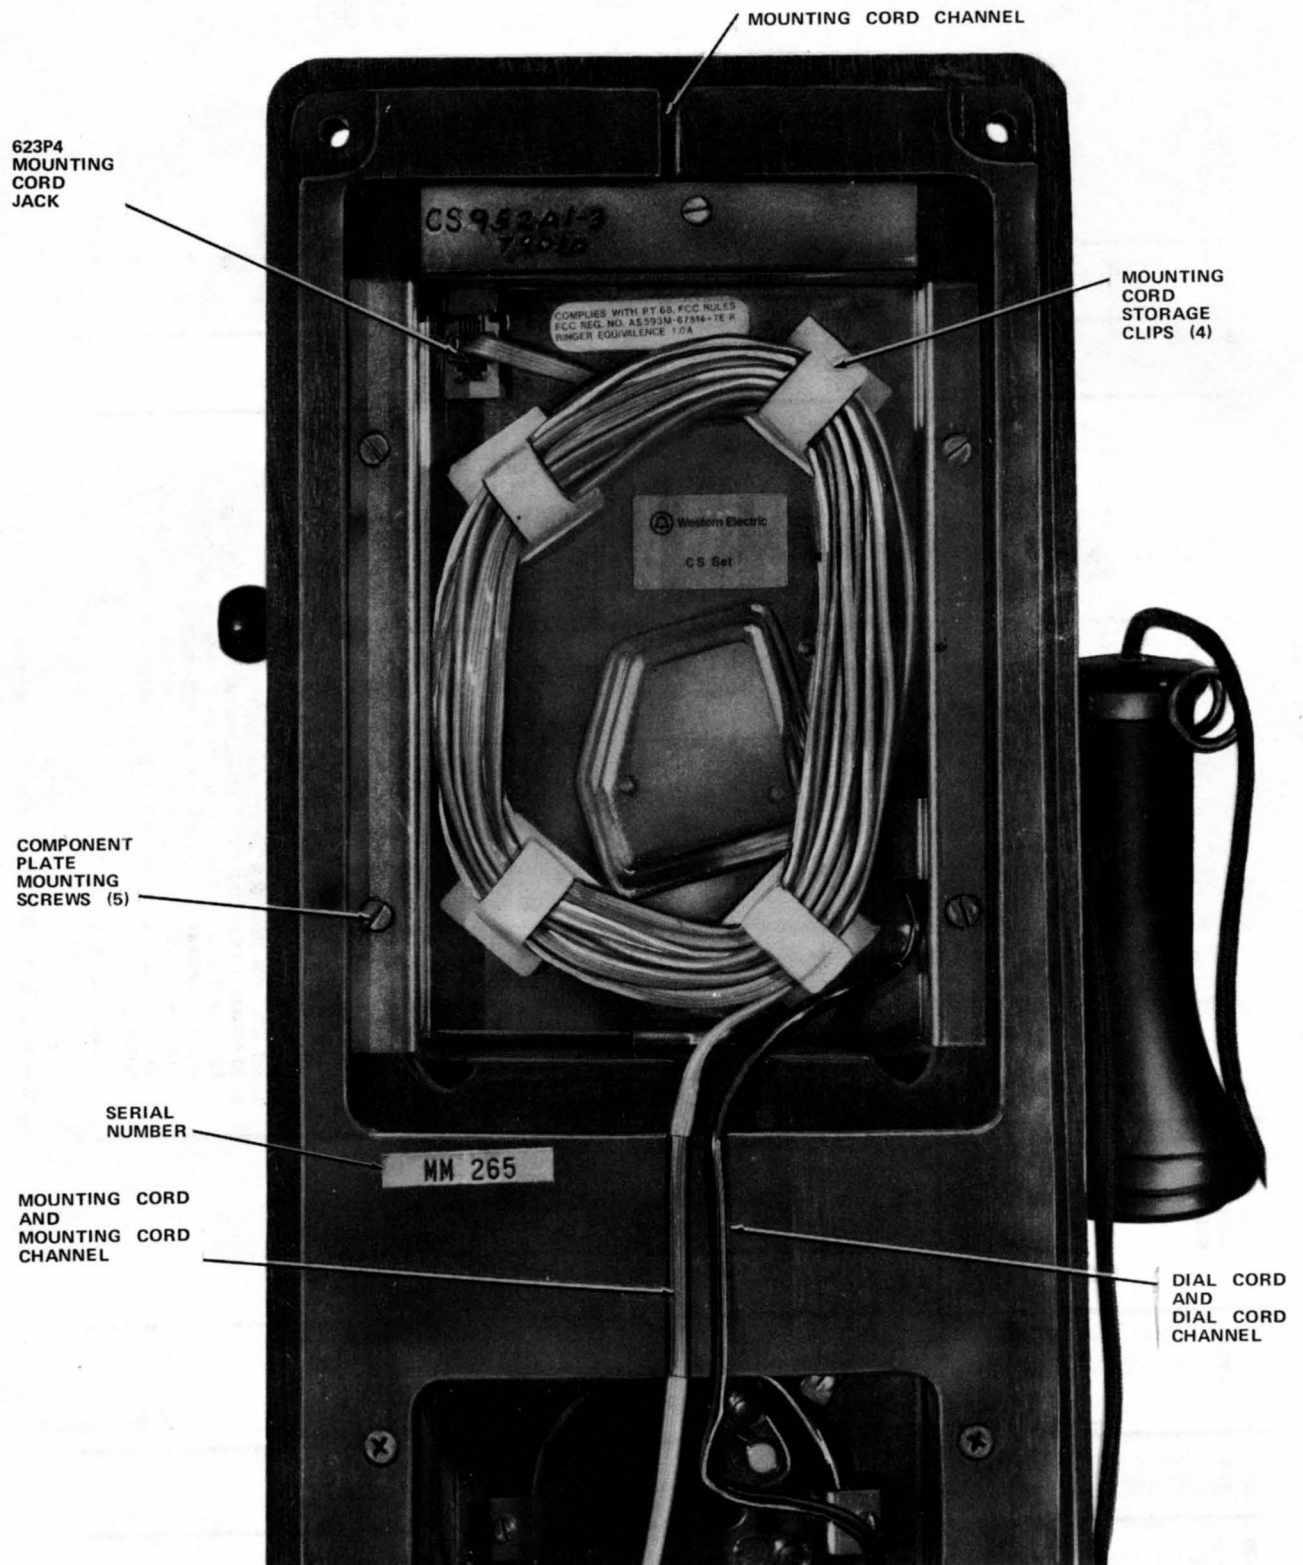

Fig. 2—CS952A1-03 Telephone Set, Rear View
- (1) Place the mounting template (shipped with set) over the modular outlet and level it.
- (2) Mark two upper and two lower mounting holes, one on each corner of the template.
- (3) Drill four 5/16-inch diameter holes and install the wall screw anchors provided.
- (4) Remove and discard the four screws used to install the wall anchors.
- (5) Wind up the excess mounting cord on the four plastic hooks on the rear of the set. Leave about six inches of cord loose (Fig. 2).
- (6) Plug in the end of the mounting cord and secure the set to the wall anchors using the four decorative screws and washers provided.
- (1) Make sure the intended mounting location will allow the 14-foot mounting cord to reach the telephone outlet.
- (2) Place the template at a convenient height and level it.
- (3) Mark the two upper and two lower mounting holes, one on each corner of the template.
- (4) Drill four 5/16-inch diameter holes and install the wall screw anchors provided.
- (5) Discard the four screws used to install the wall anchors.
- (6) Wind up the excess line cord on the four plastic hooks on the rear of the set housing (Fig. 2).
- (7) Dress the mounting cord into the channel on the back of the telephone set (Fig. 2).
- (8) Secure the set to the wall anchors using the set of four decorative screws and washers provided.
- (9) Dress the mounting cord to the 625-type modular connecting block and plug in the cord.